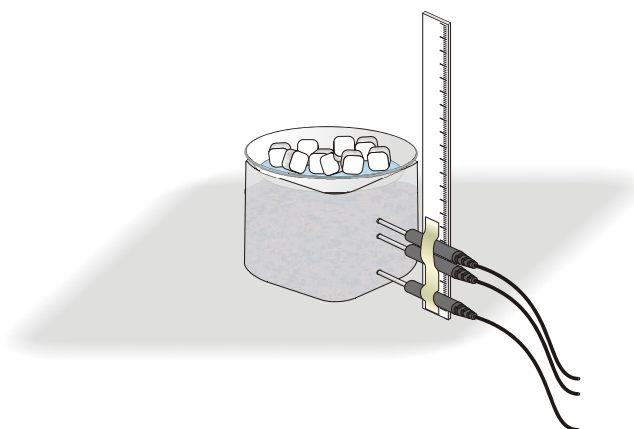

Figure 3
7. When everything is ready, place the bowl of ice on the surface of the soil as shown in Figure 3 and click to begin data collection.